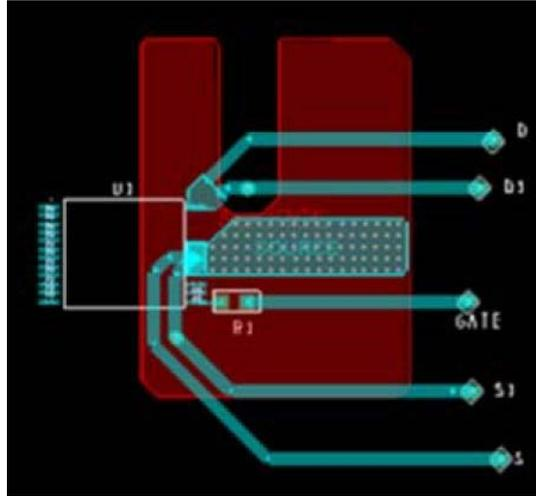

Figure 22. Thermal Resistance Test Conditions for PowiGaN Devices (LYT6078C, LYT6079C and LYT6070C.)
Testing performed on custom thermal test PCB as shown in Figure 22. The test board consists of 2 layers of 2 oz. Cu with the InSOP package mounted to the top surface and connected to a bottom layer Cu heat sinking area of 550 mm².
- Please see Figure 22.